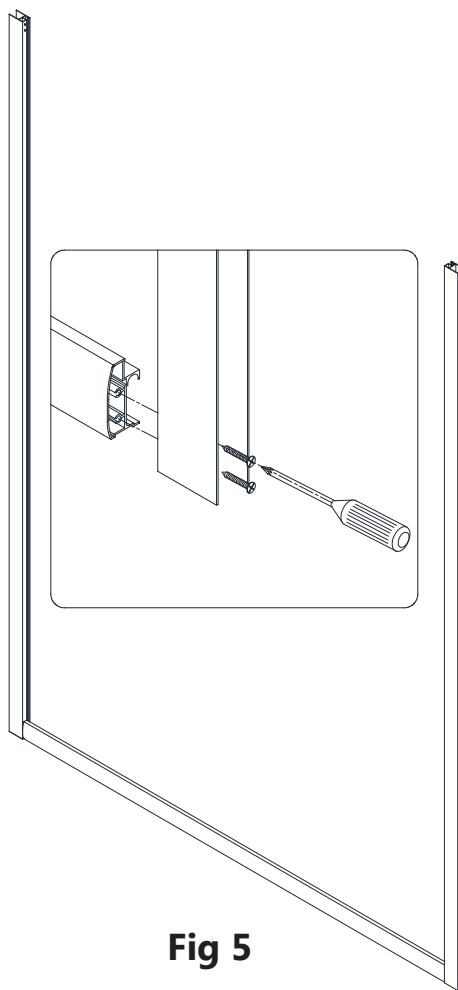

Fig 5
4. Secure the **Bottom Guide Rail (#03)** to the **Glass Profiles (#01)** with the **Round Head Screws ST4.2x25 (#10)**. **(Fig 5)**